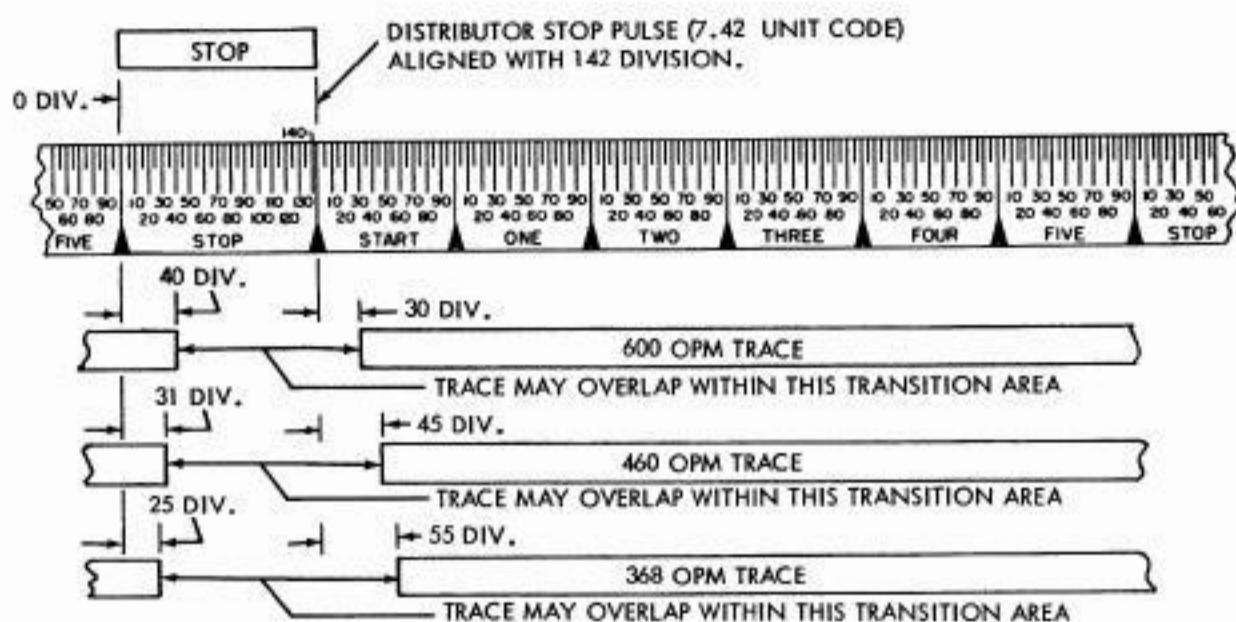

Fig. 4 — Pulse Length Requirements for Storing Switch Contacts No. 1 Through No. 5
(1) **With alternate R and Y tape used,** the beginning and end of each trace shall occur as follows (see Fig. 4).